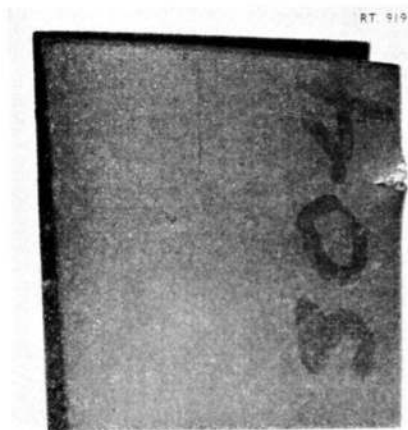

Fig. 1. Rotor blade—acceptable bruise damage
1. Small burrs or bruises on the leading or trailing edge of the rotor or stator blades, as shown in fig. 1 and 2, may be accepted up to any number provided that none occur within 0.250 in. of the root fillet radius. The engine should be rejected if:—